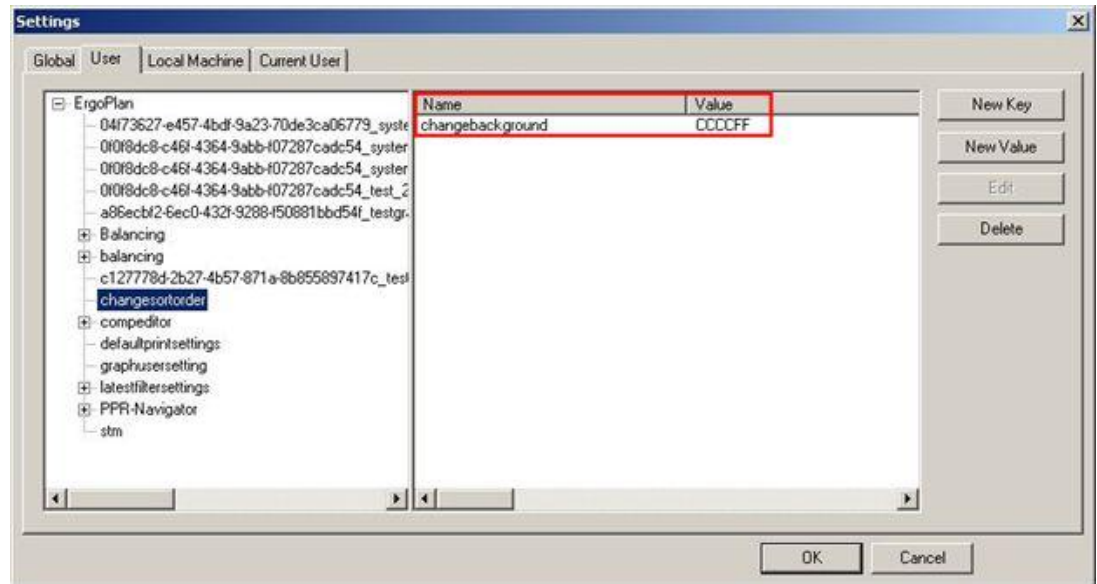

Figure 81: Activate Color Code for Background
- 2) The colored background corresponds to the adjusted color code. *Please refer to the Figure 81.*